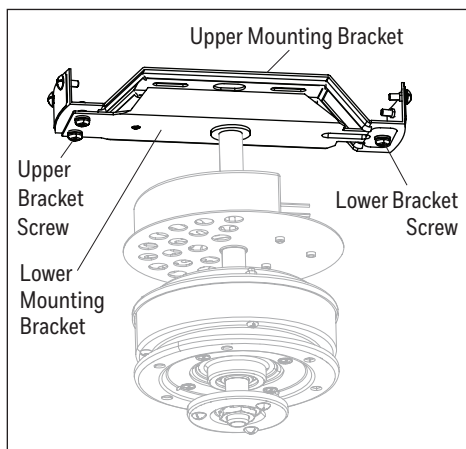

Figure 2.4
4. Reinstall the previously removed lower bracket screw and upper bracket screws to secure the lower mounting bracket to the upper mounting bracket (Figure 2.4).